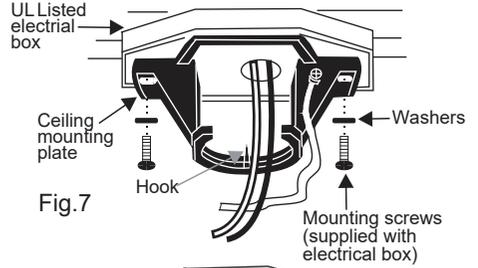

Fig.7
Step 3 Secure the hanger bracket to the ceiling outlet box with the screws and washers provided with your outlet box.(Fig.7)